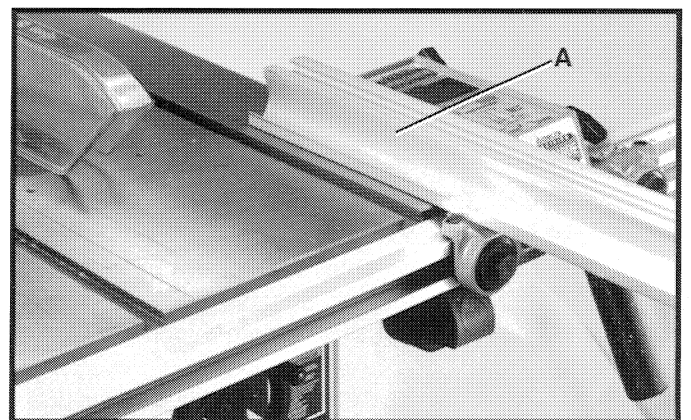
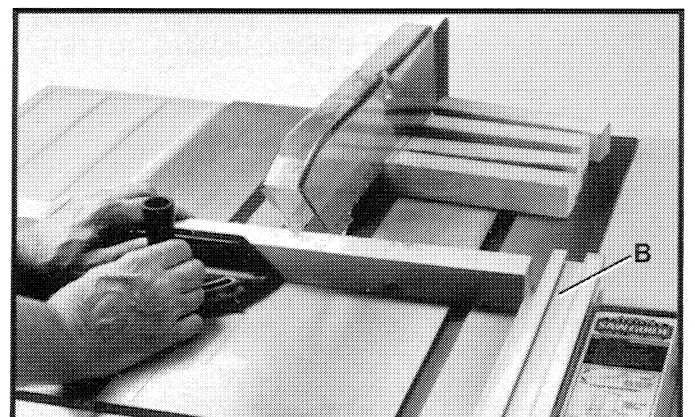

Fig. 91
Fig. 92
The fence can be used as a cut-off gage when cross-cutting a number of pieces to the same length. **IMPORTANT: When using the fence as a cut-off gage, it is very important that the rear end of the fence be positioned in front of the saw blade.** When using the fence as a cut-off gage, simply position the fence (A) to the front as shown in Fig. 91. Fig. 92, illustrates a typical operation using the fence (B) as a cut-off gage.